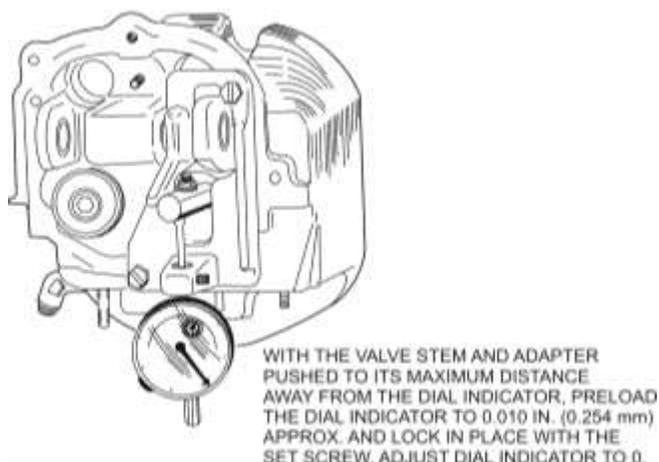

Figure 8
(20) Push the valve stem and Gage Adapter (ST-71-8), against the upper exhaust valve spring retainer as far as they will go.
(21) Put the blade of a screwdriver in the area between the exhaust valve spring and Gage (ST-71).
(22) Use the screwdriver to push the valve the maximum distance away from the dial indicator as shown in Figure 8.
(23) Move the dial indicator toward the adapter post until the indicator is preloaded approximately 0.010 in. (0.254 mm), and lock it in place with the set screw (Figure 8).
(24) Adjust the dial of the indicator to read "0" (zero) as shown in Figure 8.